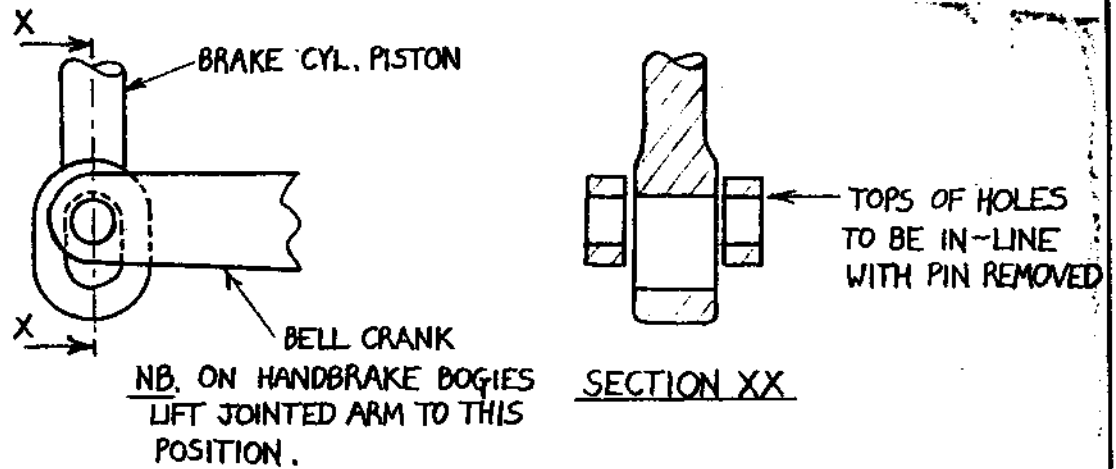

FIG. 12, METHOD FOR CHECKING $\frac{1}{2}$ " FREE LIFT.
- iv) Adjust free lift stop to obtain 1/2" initial free lift of brake cylinder piston. (see 3.0 i) and Fig. 12 of main text).